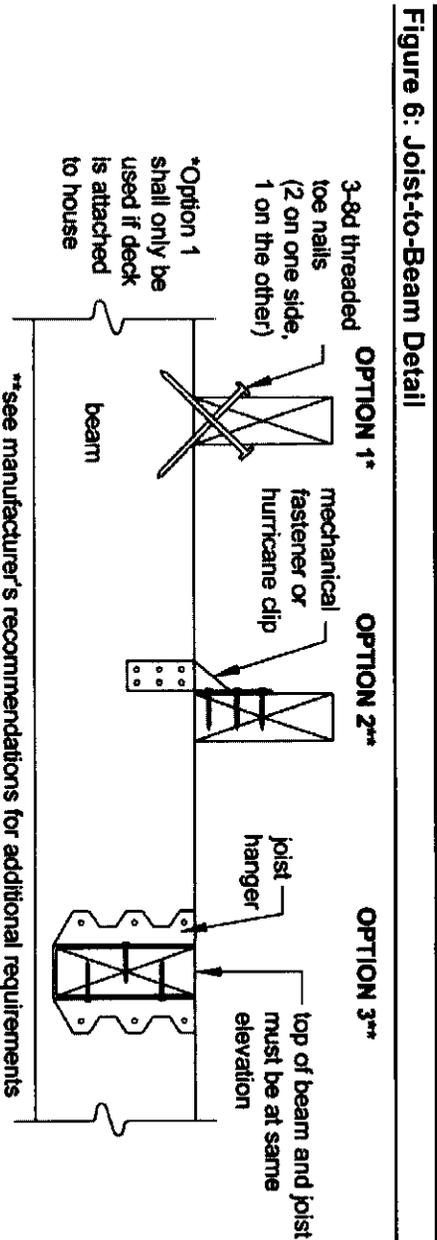

Figure 6: Joist-to-Beam Detail
Joists shall not frame in from opposite sides of the same beam. See JOIST-TO-BEAM CONNECTION details, Figure 6.
4. Beam depth must be equal to or greater than joist depth if joist hangers are used (see Figure 6, Option 3).
Each joist shall be attached to the beam as shown in Figure 6. Joists may bear on and overhang past the beam a maximum of $L_j/4$. Use Option 1 or Option 2 to attach the joist to the beam. Option 1 shall only be used if the deck is attached to the house with a ledger (see LEDGER ATTACHMENT REQUIREMENTS) or as shown in Figure 23. Mechanical fasteners or hurricane